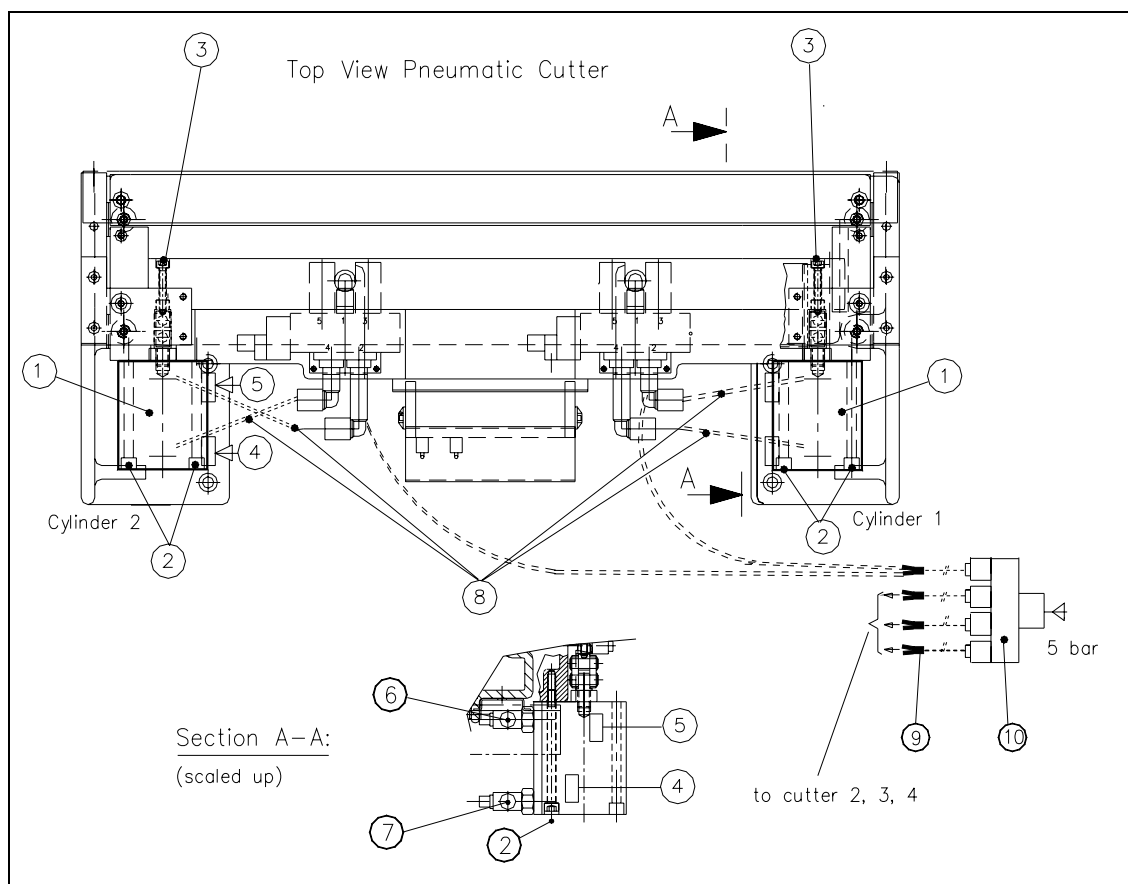

Fig. 5.6.3 Removing and Installing the Short-Stroke Cylinder
- Loosen the cutter's compressed air connection (Y-socket union: see Fig. 5.6.3 -> 9) in the cable pit (see Fig. 5.6.7 -> 5).
- Remove the cover from the cable pit and make the compressed air connection to the machine at the Y-plug-in coupling (see Fig. 5.6.3 -> 9).
- Loosen the screws fastening the two inductive proximity switches to the short-stroke cylinder (1 screw each: see Fig. 5.6.3 -> 4, 5).
- Loosen the screws fastening the short-stroke cylinder (2 screws: see Fig. 5.6.3 -> 5) and remove the cylinder, incl. the articulated joint screwed into it.
- Fasten the cylinder in this position with the 2 screws M5x65 (Fig. 5.6.3 -> 2) provided.
- Install the proximity switch (article no. see Section 5.2) precisely in the position you marked on the short-stroke cylinder with the permanent marker (see Fig. 5.6.3 -> 4, 5).